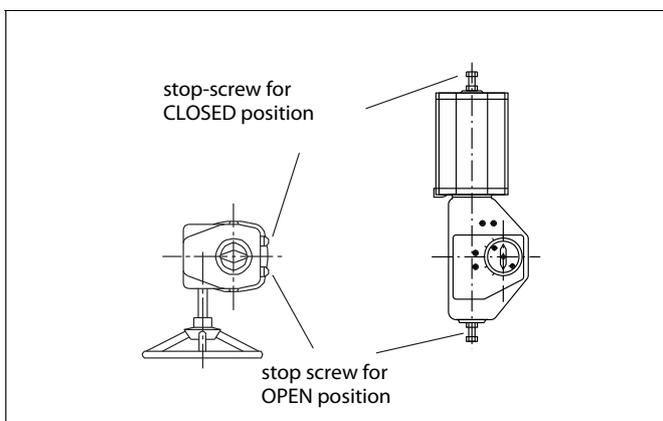

Fig. 22 Open and closed positions of the valve
- ❑ Pre-compress the packing rings first either by tightening the gland nuts (with or without disc springs) to the torque T_t or by tightening the gland with disc springs to the height H_2 . See Fig. 22 and the value from Table 2.
- ❑ Loosen the gland nuts. Place the disc spring sets (150) on the gland studs as applicable. Retighten the nuts (18) to the torque T_t or so that the disc springs are compressed to the height H_2 , see Table 2.
- ❑ Adjust the ball open and closed positions by means of the stop screws located at the side of the housing (see Figure 22). The closed position screw is nearest to the handwheel on the side of the housing, and the open position screw is on the opposite end. The turning directions are marked on the wheel.
- ❑ Adjust the open and closed positions of the ball with the adjustment screws in the actuator. See Figure 22. The exact open position is indicated by the flow bore. The yellow arrow should indicate the direction of the flow bore. **Do not put your fingers into the flow bore!**